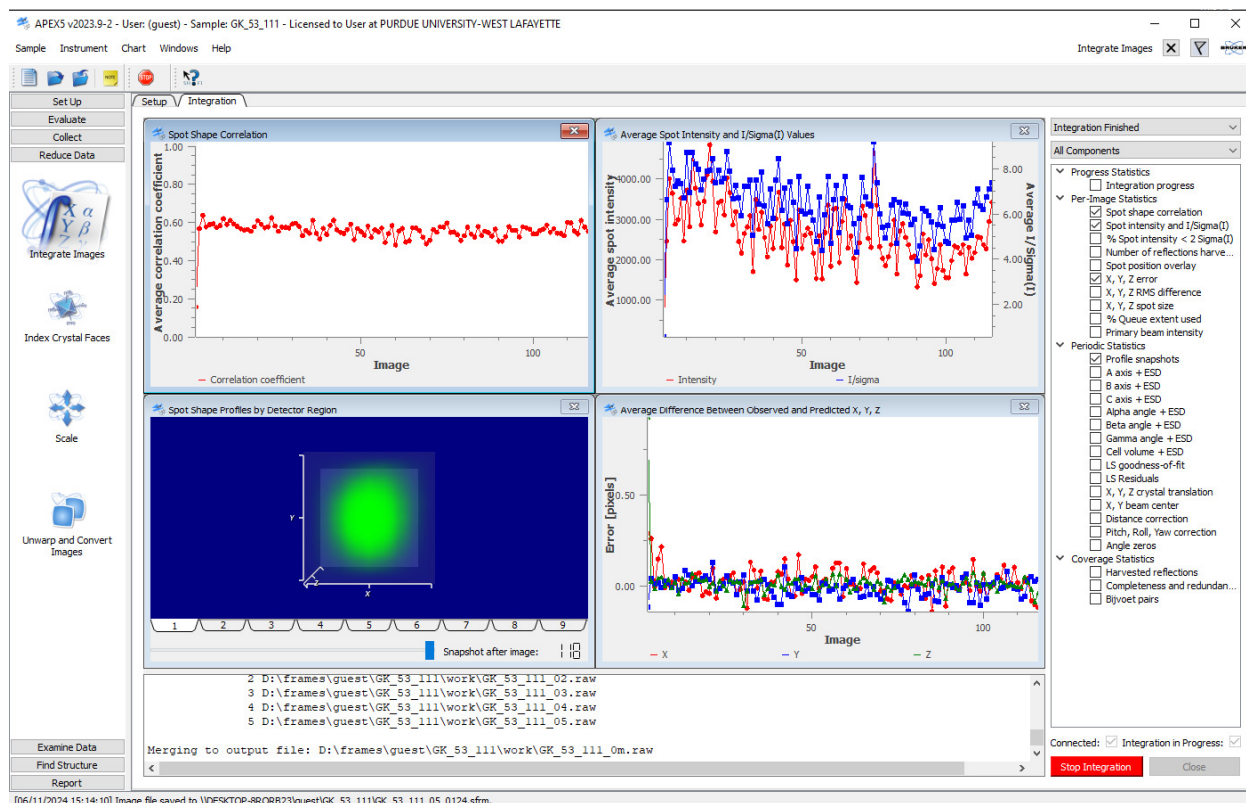

Figure 25, Integration Window with active Integration running
- The parameter refinement window will open (Fig. 25). An average redundancy of around 5.0 is usually sufficient for weak to medium absorbing samples, but initial data can be processed with much less. For oddly shaped and heavily absorbing samples a higher redundancy is recommended for the final data workup.